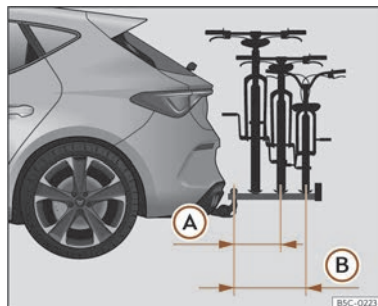

Fig. 197 Schematic representation of the maximum load overhang of a bicycle rack for two or three bicycles.
>>> **Fig. 197 (A)** for two-bicycle racks. In the case of three-bicycle racks, the overhang must not exceed 700 mm >>> **Fig. 197 (B)**.